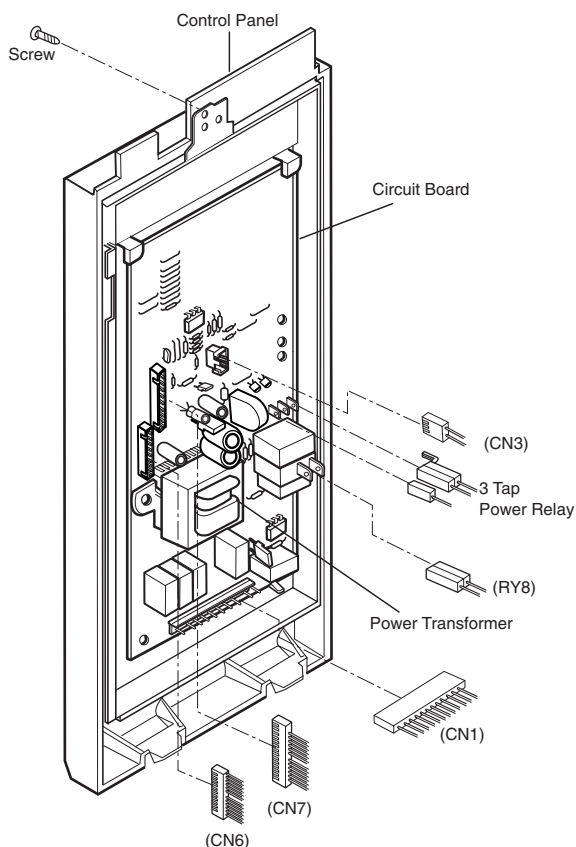

Figure 1
A. REMOVING POWER AND CONTROL CIRCUIT BOARD (Figures 1, 2 and 3)
- (1) Remove a screw securing the control panel assembly to the oven cavity.
- (2) Remove the control panel with pushing it upward.
- (3) Remove the connectors (CN1, CN3, CN6, CN7) and wire leads (3 Tap Power Relay, RY8) from the circuit board.